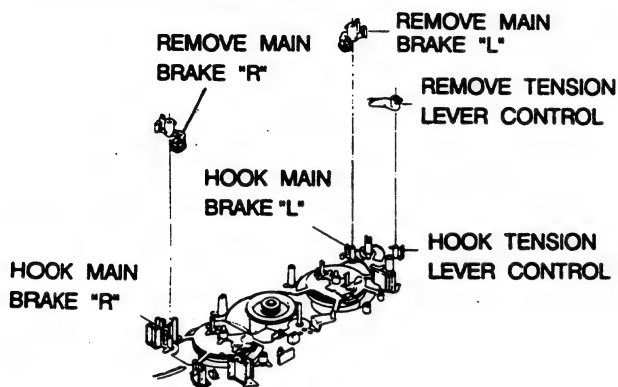

Fig. 41 Main Brake L/R and Tension Lever Control Removal
4. Release four (4) tabs and remove main slide.
5. Release tab and remove the tension lever control. Refer to Fig. 41.